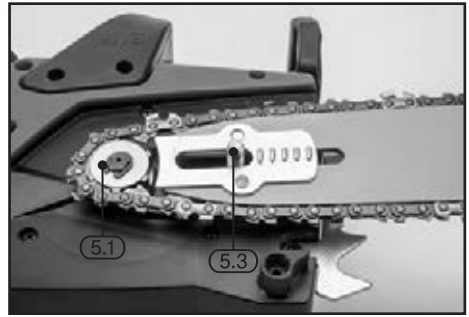

FIG.1
8.1 ATTACHING/ADJUSTING GUIDE BAR AND CHAIN - FIGS. 1 - 3